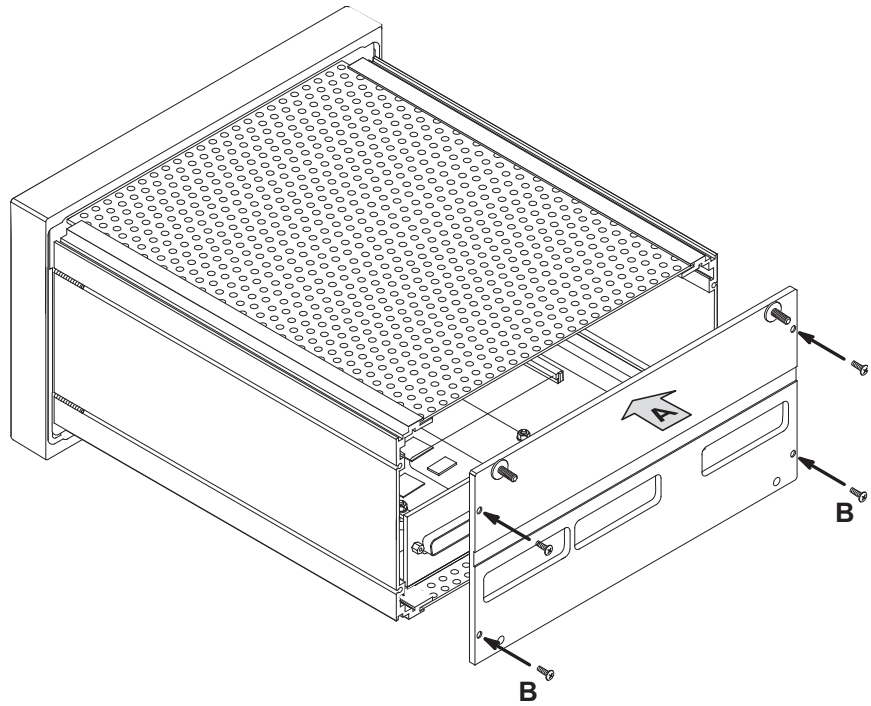

Fig. 8-34: Mounting the rear cover plate
20. Reinstall the rear cover plate at the rear side of the unit (fig. 8-34).